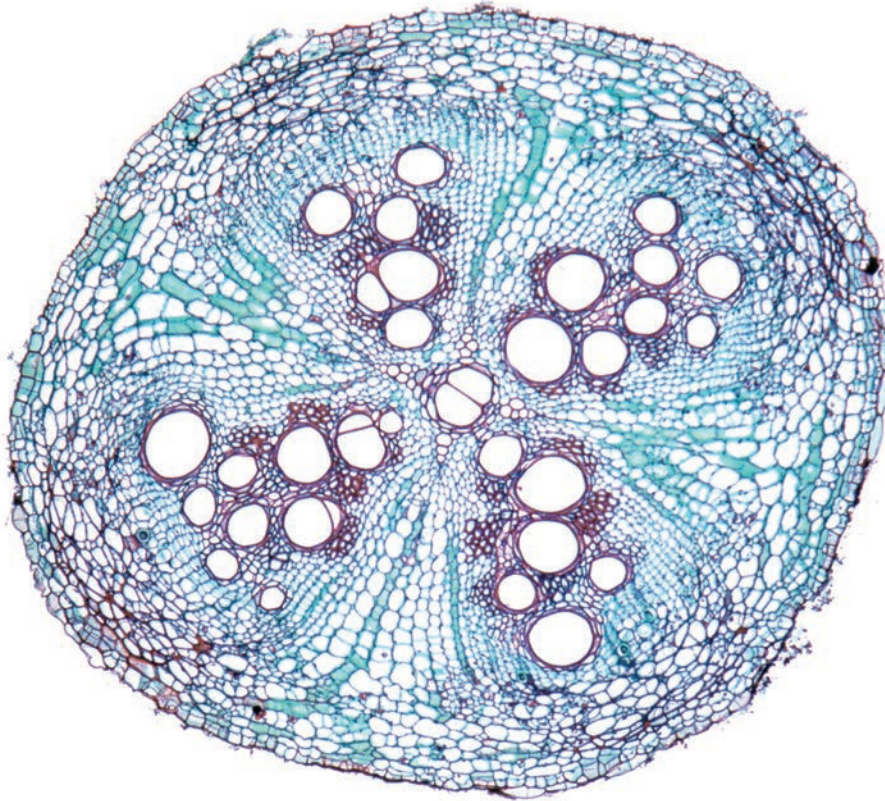
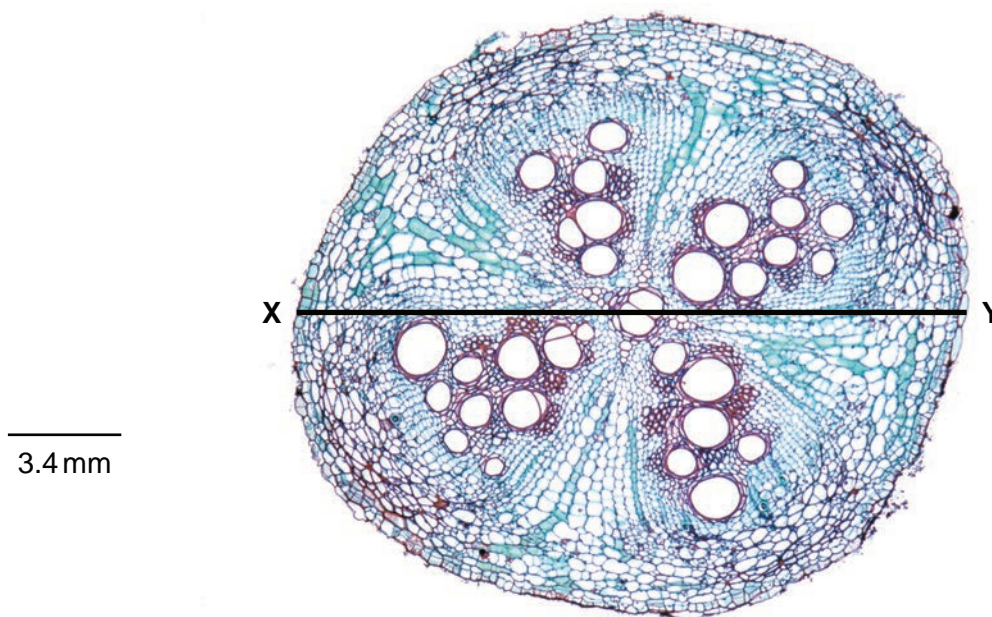

Fig. 2.1
Fig. 2.2
- (b) Fig. 2.1 is a photomicrograph of a stained transverse section through a root of a different type of plant.
Identify **three** observable differences, other than size and colour, between the root section on **M1** and the root section shown in Fig. 2.1.
- (c) Fig. 2.2 is the same photomicrograph as that in Fig. 2.1, with the line X–Y drawn across its width.
- (i) In Fig. 2.2 the line X–Y is drawn across the diameter of the root section.
- (ii) Calculate the area of the root section in Fig. 2.2, using the actual diameter from (c)(i) and the equation:
- (iii) Suggest why the answer to (c)(ii) is an estimate of the area of the root section shown in Fig. 2.2 rather than the actual area.
- (iv) Suggest how a more accurate estimate of the area of the root section shown in Fig. 2.2 could be made.